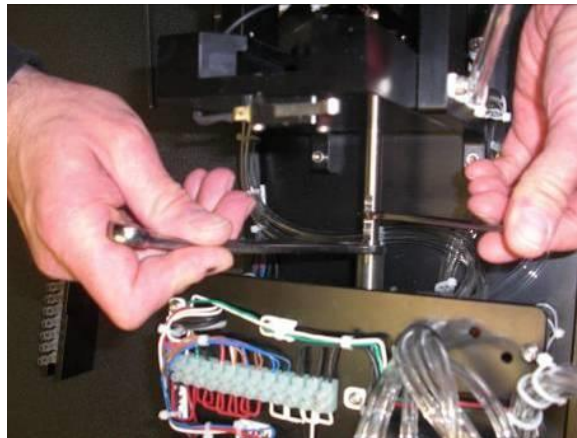

Figure 2.4.8
- Place a 5/16" open end wrench onto the flats of the pin set and tighten pin set into the cylinder rod. **Figure 2.4.8**